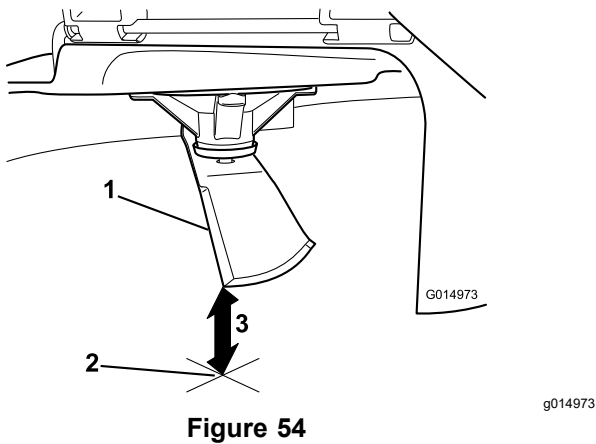

**Figure 53**
4. Rotate the same blade 180 degrees so that the opposing cutting edge is now in the same position (Figure 53).